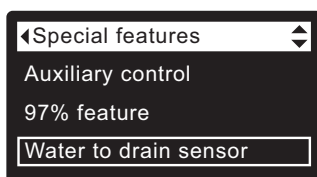

FIG. 93
1. From any of the rolling status screens, press the SELECT (O) button to display the **Main menu**.
3. Press the SELECT (O) button to display the Advanced settings menu.
5. Press the SELECT (O) button to display the Special features menu (See Figure 93).
8. If the desired option already has a dot next to it, go to Step 9. Otherwise, press the DOWN (▼) or UP (▲) buttons to scroll to the other option, then press SELECT (O) to choose it.
9. Press the SELECT (O) button. The display will go back to the Special features menu (Figure 93).